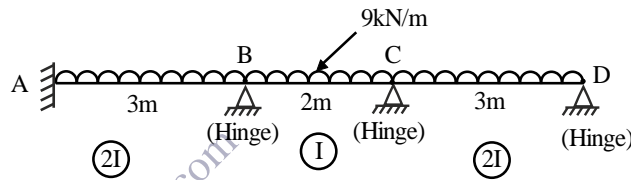

Fig. 8
8. Analyse the continuous beam shown in fig. 8. Draw B.M.D. Take  $EI = 1$  unit (Note : udl is continuous on span AB, BC & CD) 13